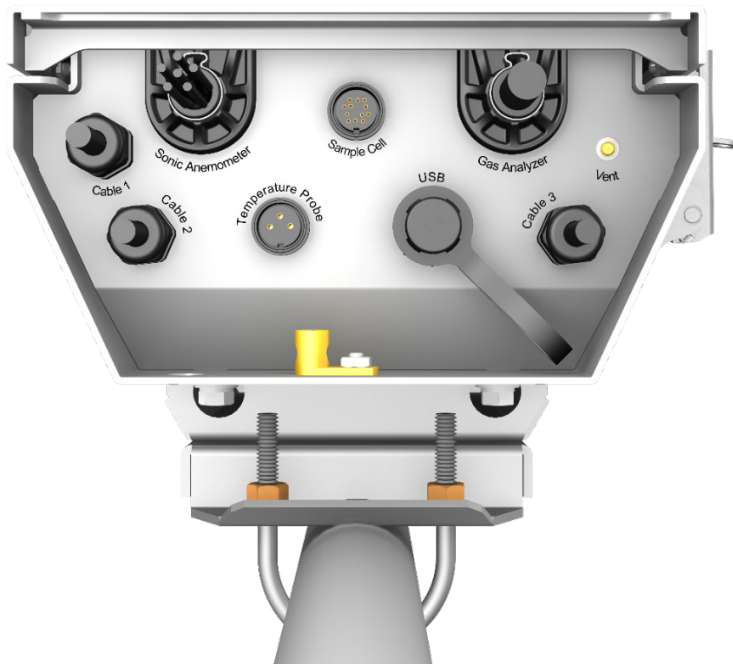
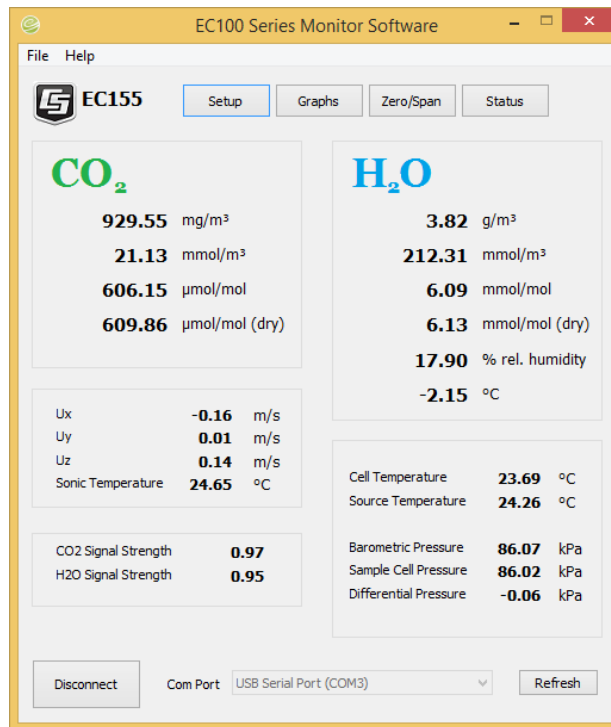

FIGURE 6-12. Bottom of EC100 enclosure
FIGURE 7-2. Main window of *ECMon*
FIGURE 6-11 and FIGURE 6-12 below show the EC100 electronics panel and the bottom of the EC100 enclosure, respectively. Refer to these figures during wiring and connecting.
1. Connect the EC155 gas analyzer head. Begin by removing the black rubber cable entry plug on the bottom right of the EC100 enclosure. (This plug can be stored in the mesh pocket of the enclosure). Now insert the cable entry plug that is attached to the large cable of the EC155 gas analyzer head into the vacant slot. Push the connector at the end of the cable onto its mating connector (labeled **Gas Analyzer**) and tighten the thumbscrews (see FIGURE 6-12). The EC155 gas analyzer cable is approximately 3 m (9.8 ft) in length.
4. Ground the EC100 by attaching a thick wire (for example, 12 AWG) to the grounding lug found on the bottom of the EC100 enclosure (see FIGURE 6-12). The other end of the wire should be connected to earth (chassis) ground (such as a grounding rod). For more details on grounding, see the grounding section of the CR3000 datalogger manual.
Once the driver is installed, download and run the *ECMon.exe* install file. Launch *ECMon*, and connect the EC100 electronics to the PC with the included EC100 USB cable. The USB connection for the EC100 electronics is found on the bottom of the enclosure (see FIGURE 6-12). Once connected, select the appropriate communications port in the *ECMon* main page and click **Connect**. Next, click on the **Setup** button (see FIGURE 7-2). All of the above settings are now available for the user to change (see FIGURE 7-3).